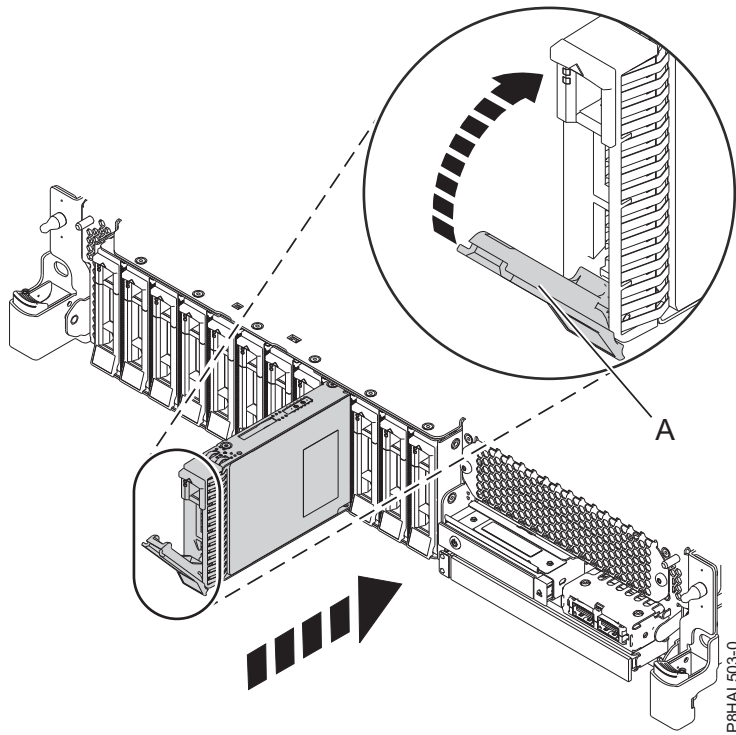
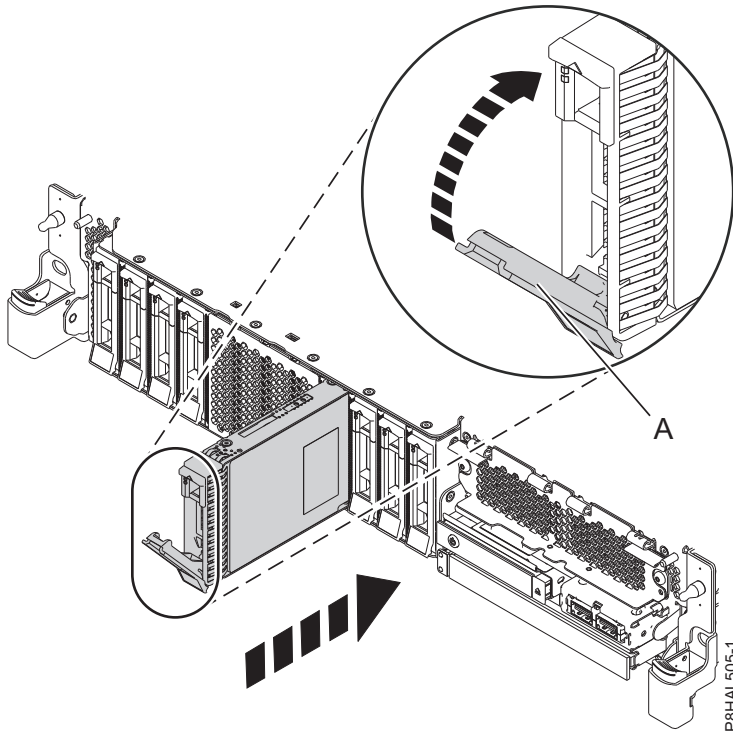

Figure 13. Installing a disk drive in a base function system
Figure 14. Installing a disk drive in an expanded function system
4. Unlock the drive bay handle (A) by pressing it and pulling it out toward you. If the handle is not all the way out, the drive does not slide into the system. See Figure 13 on page 17 and Figure 14 on page 18.
8. When the identify LED turns on solid, slide the drive all the way into the system, and push the drive carrier handle (A) in until it locks, as shown in the following figure. Figure 13 and Figure 14 on page 18.